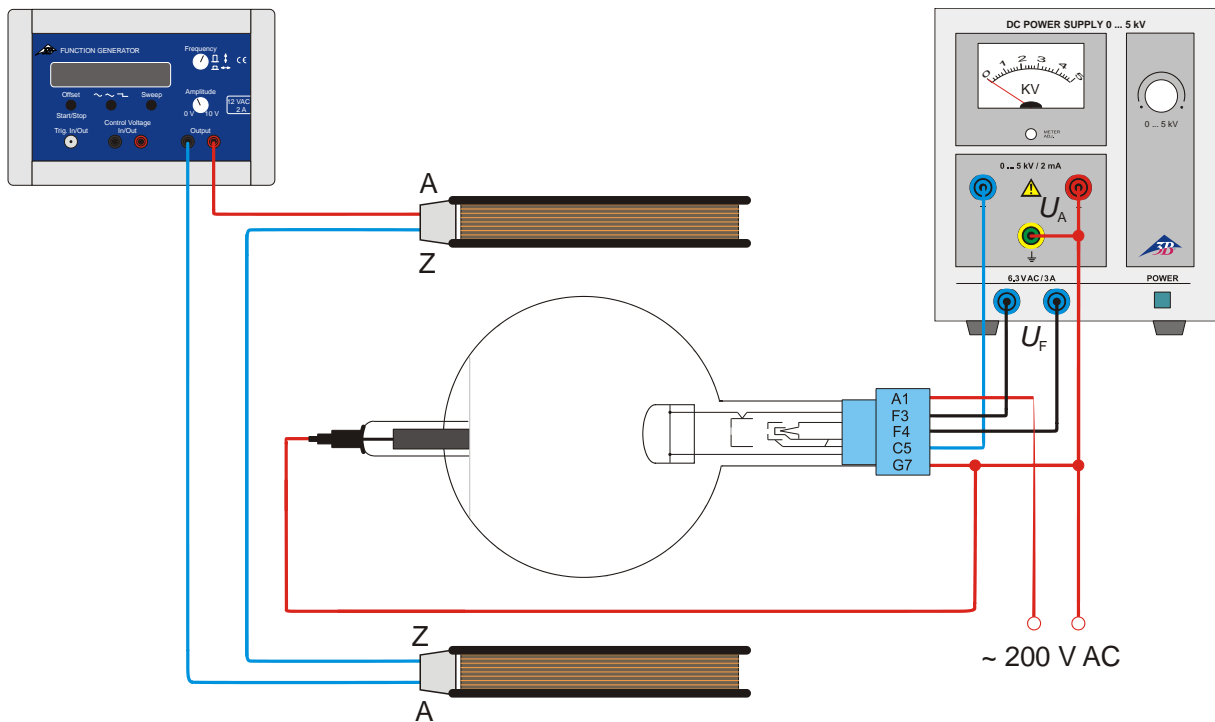

Fig 6 Deflection in collinear alternating magnetic and electric fields (Lissajous figures)
- Set up the experiment as in fig. 6.